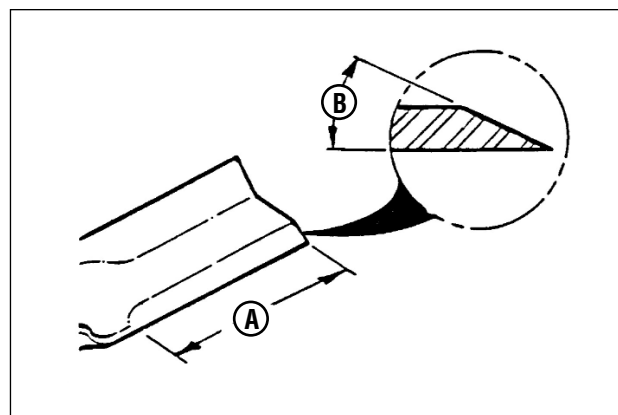

Figure 44: Sharpening the mower blade
6. If the blade is in good condition, sharpen at 22 to 28 degrees (**B**, **Figure 44**). DO NOT sharpen beyond existing cutting edge (**A**).